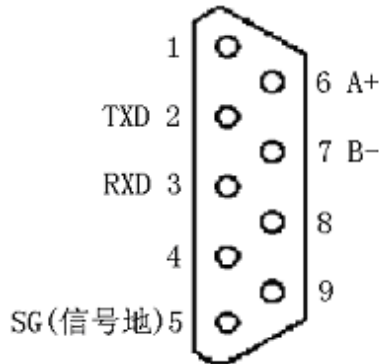

Figure4. 9-pin Standard D-Sub socket
4.5 Serial communication connection(Figure 4)
Please connect pin 2(TXD) , pin 3(RXD) and pin 5(SG) showed in figure 4 to PC's standard RS232 serial port's corresponding pin 2(RXD),pin 3(TXD) and pin 5(Signal COM);
Please connect pin 6(A+) , pin 7(B-) showed in figure 4 to the Master(PC)'s standard RS485 serial port's corresponding pin(A+), pin(B-). In fact, this is the Half-Duplex RS485 Communication Mode, you should set every 8CM Accumulator to the different address, the Master(PC) can discern every 8CM Accumulator by the different address, in this mode you can use one Master(PC) communicate with 16 8CM Accumulators (if you want know more about the communication protocol, please read the Appendix One).